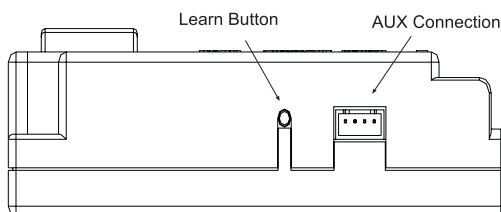

Figure 41 - Gas Module Left Side
1. There is a switch located on the right side of the module that reads REMOTE/OFF (Figure 41).
- To program the module (make sure the system has power), locate the learn button on left side as shown in Figure 41. Press and release the learn button. There will be a beep sound from the module. Then press any button on the remote transmitter. Once the module's internal receiver accepts the transmitter code, there will be a series of confirming beeps.